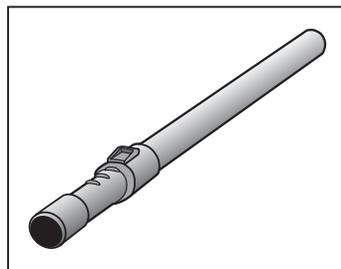

Fig. 10
**TUBE TELESCOPIQUE (Fig. 10)**